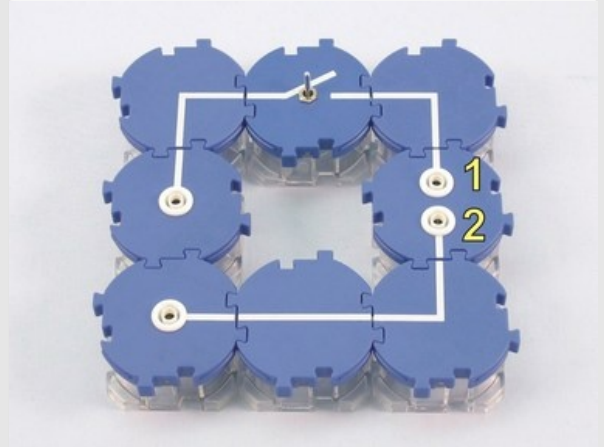
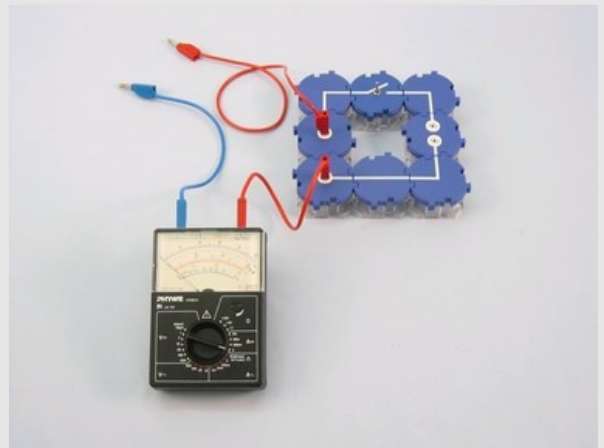

Fig. 1
Fig. 2
- Set up the experiment as shown in Fig. 1 and Fig. 2. Connect the ammeter directly to the power supply unit so that sufficient connecting leads are available. Select the measuring range of 3 A-.